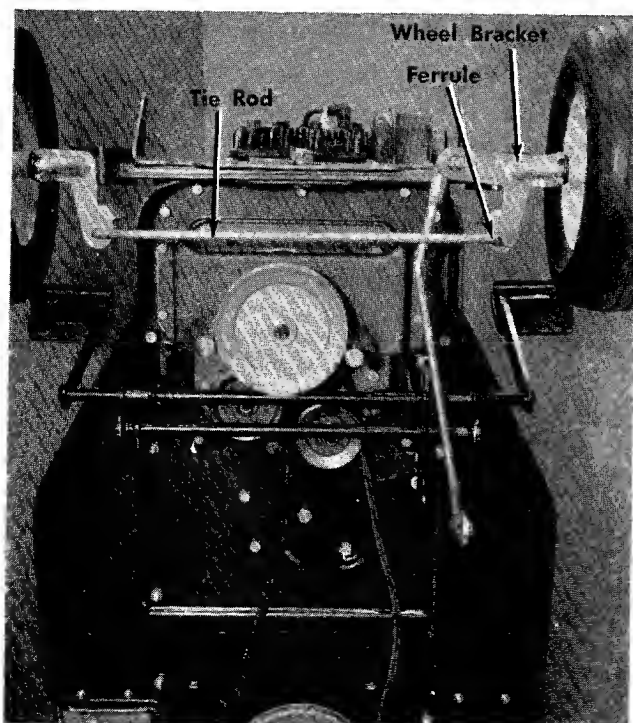

FIGURE 40.
The caster (forward slant of the king pin) and the camber (tilt of the wheels out at the top) require no adjustment. Automotive steering principles have been used to determine the caster and camber on the mower. The front wheels should toe-in 1/8 inch. See figure 40. To adjust, follow these steps:
1. Remove the cotter pin holding the ferrule to the axle bracket. See figure 40.